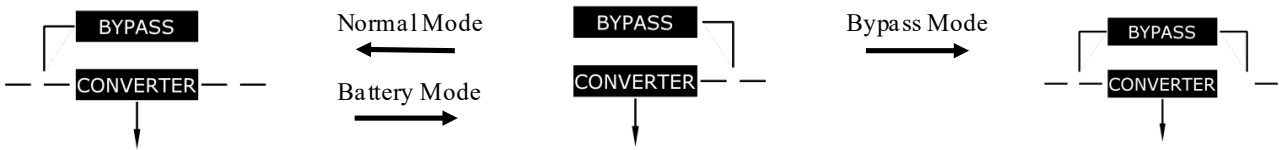

Figure 13
5.1.5 – UPS Operation Mode (3.b): LCD single line diagram will change depending on current state of operation, Refer to Figure 13.